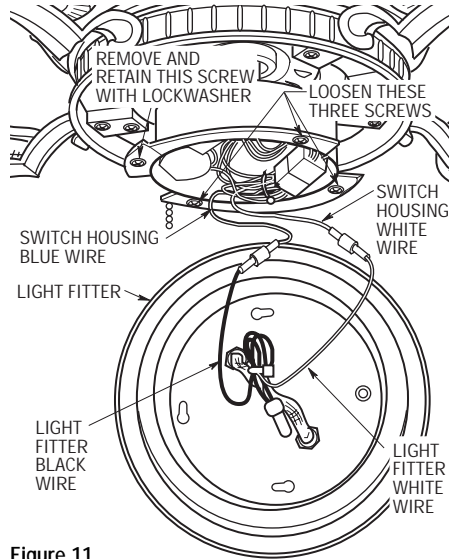

Figure 11
- 13. Remove and retain the pan head screw with lockwasher from the recessed portion of the switch housing flange (Figure 11). Loosen the other three pan head screws in the flange two or three turns.
- 14. Connect the white wire from the light fitter to the white wire from the switch housing (Figure 11). Connect the black wire from the light fitter to the blue wire from the switch housing. Make sure both connectors are securely engaged.